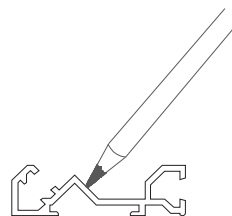

Figure 2
STEP 2. Select the base members. If the anchor holes have not been drilled into the base members at the factory, mark the locations for the anchor holes on the base members, see Figure 2. Standard anchor spacing is 20" o.c. with an anchor hole a maximum of 3" from each end of each extrusion section. Drill the anchor holes into the base members at the marked locations.